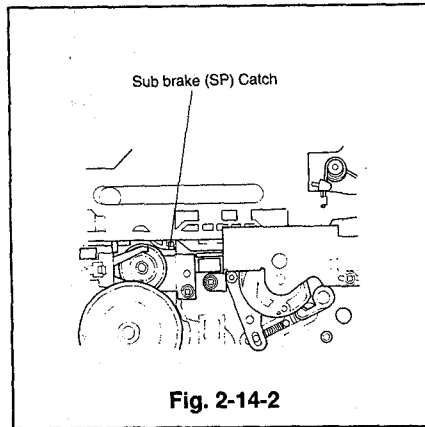

Fig. 2-14-2
- 3 Reverse the deck and unfasten the catch with a small screw driver, etc., to remove the sub brake(SP) as shown in Fig. 2-14-2.